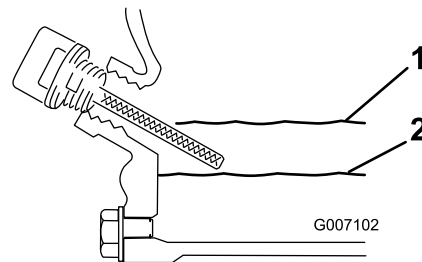

Figure 16
6. Pull the dipstick out and look at the end. There should be oil on the dipstick (Figure 16).